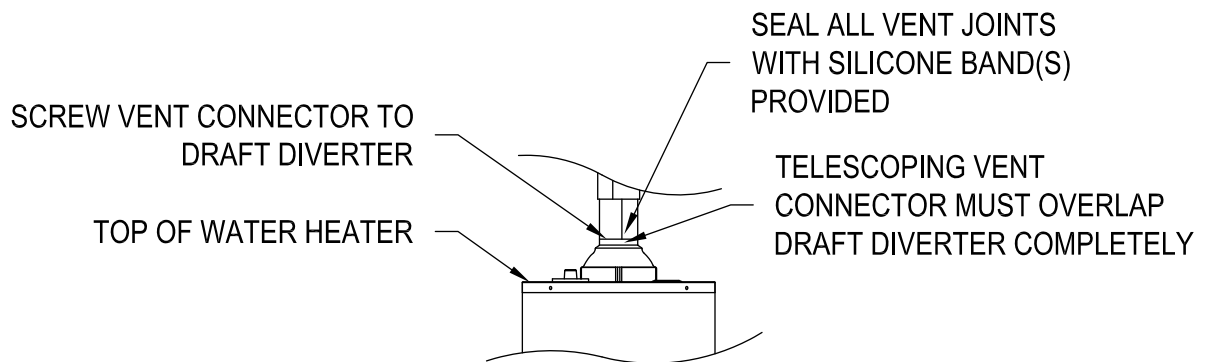

Figure 3
Step 7. Slip the 3" vent connector extension (shipped telescoped in the roof jack) down over the draft diverter which attaches to the water heater (see Figure 3).
Step 9. Clamp the vent connector extension to the water heater draft diverter using (2) sheet metal screws provided (see Figure 3).
The outer pipe Must extend below the ceiling as noted on the outer pipe of the roof jack (see Figure 3).